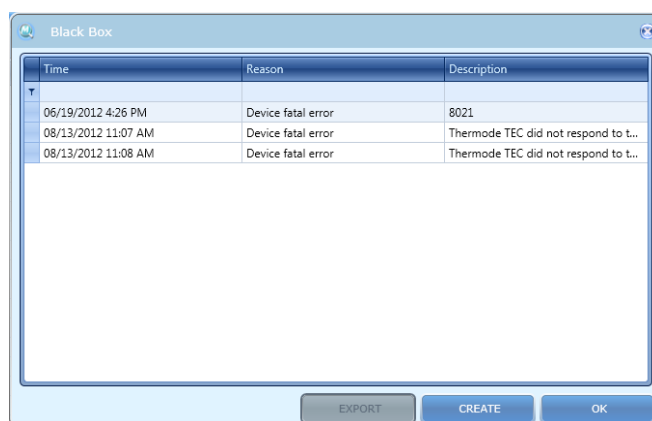

Figure 98: Black Box – Software
5. A new entry will appear with the reason: On demand (see Figure 98).